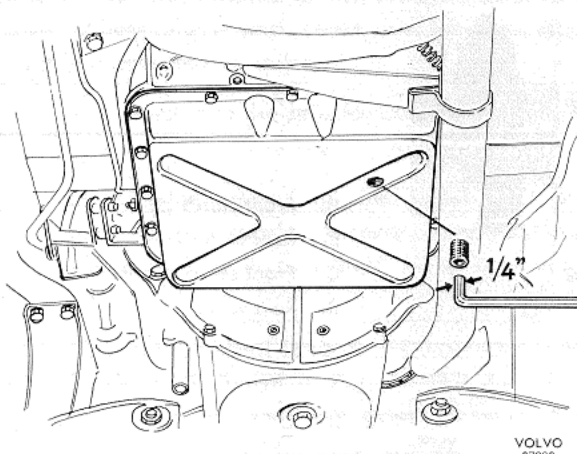

Fig. 35. Oil drain plug
1. Jack up and place blocks under the vehicle. Drain off the oil into a vessel which is absolutely clean. See Fig. 35.
2. Drain out the oil into an absolutely clean container, see Fig. 35. Caution. The fluid can be very hot, causing scalding if it comes into contact with the skin.
2. Drain the oil into a clean container, see Fig. 35.